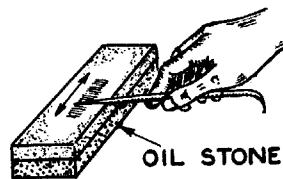

FIG. 1 SHARPENING A SCRIBER
1. Inspect the point of the scribe to make sure that it is sharp. If the point is dull, sharpen it on an oil stone by rotating the scribe between the thumb and forefinger while moving it back and forth. (Fig. 1).